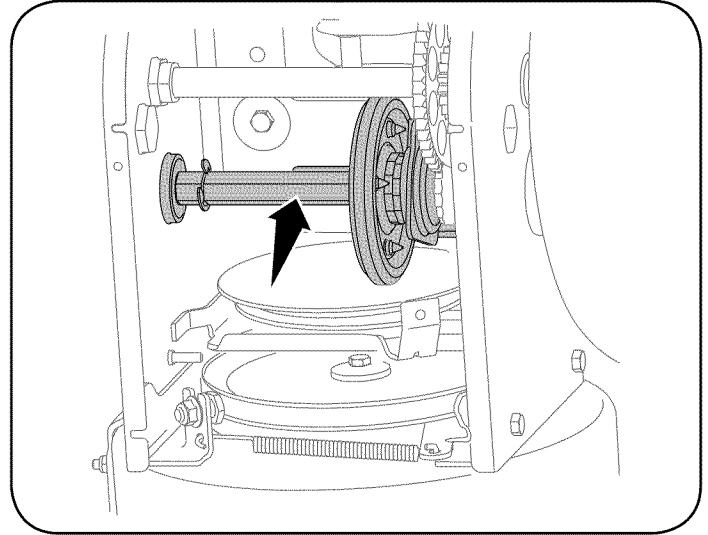

Figure 17
4. Apply a light coating of Bostik Regular grade Never-Seez® to the hex shaft. See Figure 17.